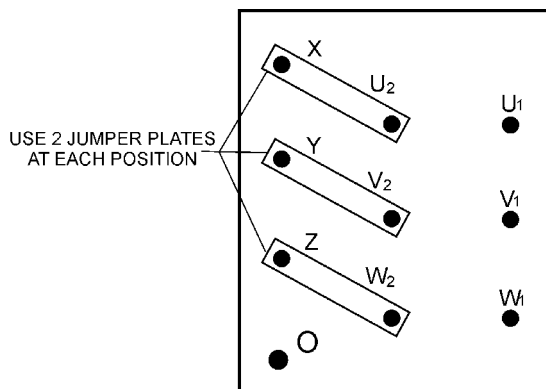

Figure 23. Voltage Change-Over Board 480V Configuration
1. Jumper the voltage change-over board for 480V operation as shown in Figure 23. This configuration uses 6 jumper plates in 3 different positions. Remember there are 2 jumper plates at every position. Every jumper plate **must** be used.
1. Make sure the voltage change-over board is jumpered for 480V operation as shown in Figure 23.